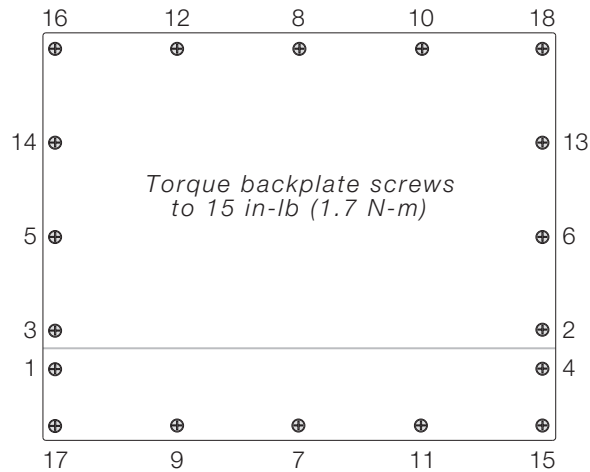

Figure 7. Backplate Torque
9. Once installing the power supply is complete, position the backplate over the enclosure and reinstall the backplate screws. Use the torque pattern shown in Figure 7 to prevent distorting the backplate gasket. Torque screws to 15 in-lb (1.7 N-m).